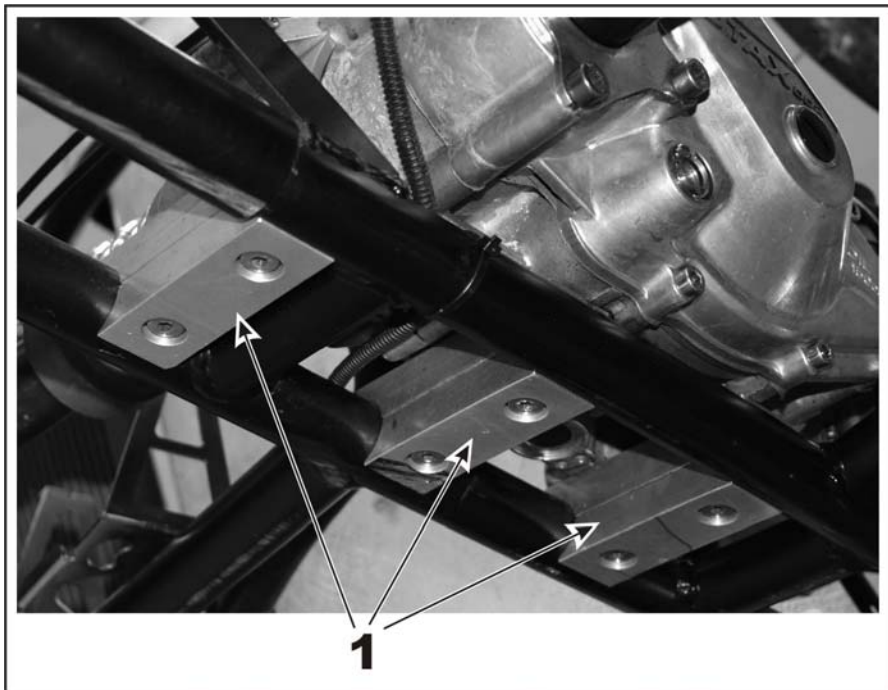

Fig. 6
The engine has to be fixed to the chassis by means of 2 engine brackets (1) (Fig.6). Due to different distances of the 2 main rails of various chassis brands is the engine bracket not included in the content of delivery of Rotax.
- ➔ After engine alignment, tighten the 4 allen screws M8 x 25 to fix the upper engine bracket to the engine with 28 Nm (248 lbf.in.). Fix and tighten the lower engine bracket to the upper bracket with 4 allen screws M8 x 30 with 22 Nm (195 lbf.in.). see Fig.6